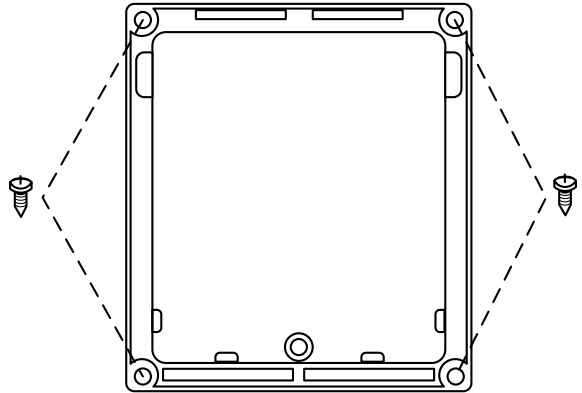

Figure 3
2. Remove the mount surround from the back of the control and fix it around the mounting opening with the 4 x M3×10 screws provided, as shown in figure 3.